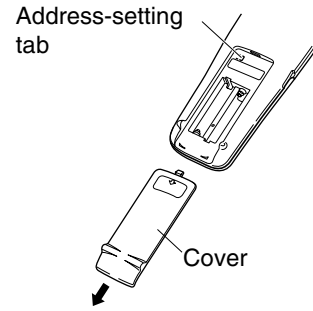

Fig. 13
- (1) Open the cover on the bottom of the remote controller. Break the address change tab to switch the address to B. (Fig. 13)
- (2) Insert dry cell batteries into the remote controller and attach the cover.